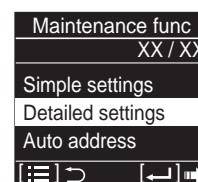

Fig. 4-12-2-3
- (3) Select the "Unit no." (Fig. 4-12-2-4) by pressing the  or  button.